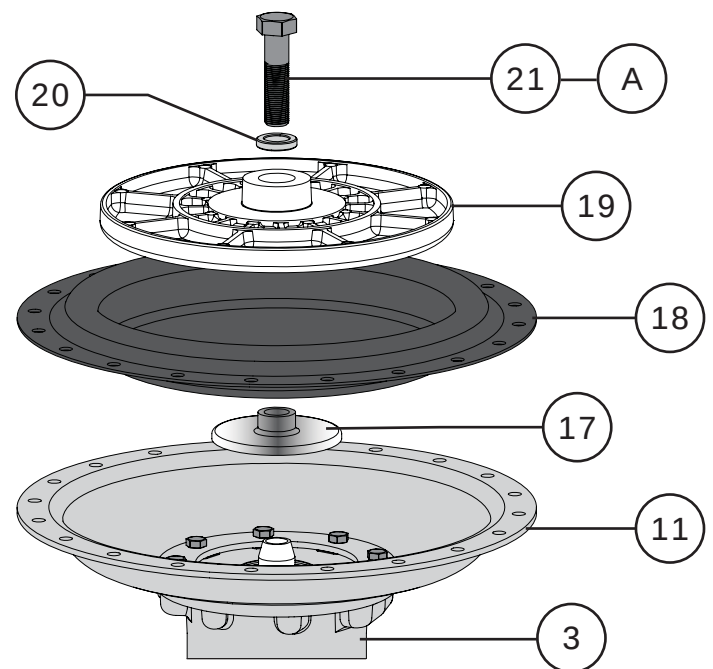

Figure 99 Diaphragm Casing Parts Installation Detail
- 20** Apply Permatex® Nickel Anti-Seize (Key A) to the threads of the cap screw (Key 21). Install the lower diaphragm plate (Key 11), diaphragm (Key 18), diaphragm plate (Key 19), spacer (Key 20), and cap screw (Key 21) as shown in Figure 99. Tighten the cap screw to the torque specification listed in Table 4. **NOTE:** If the actuator is not already attached to the valve, it may be necessary to temporarily install the connecting block (Key 27) in order to keep the actuator stem (Key 612) from rotating during cap screw (Key 21) tightening.